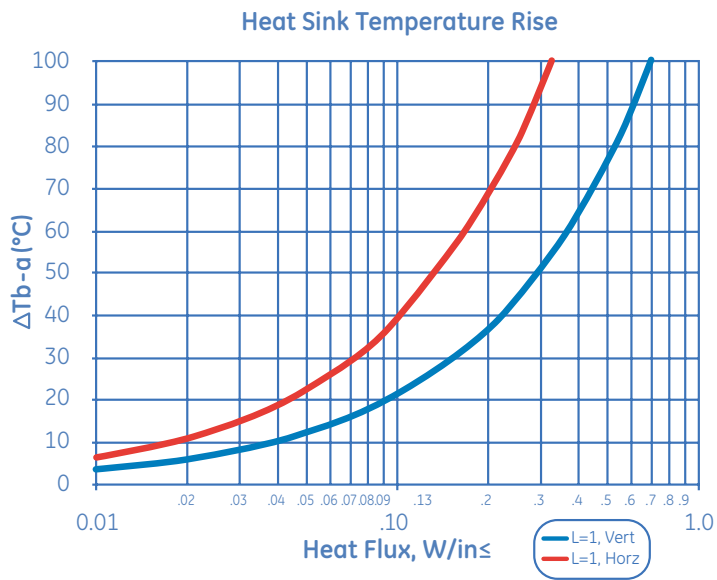

Fig T.8 Heat Sink Natural Convection Curves
Airflow is another factor affecting thermal resistance. The more airflow a heat sink is exposed to, the lower the thermal resistance. The following chart, Figure T.8, illustrates this effect with two (2) natural convection curves. The blue line represents a design with adequate airflow, while the red line illustrates the thermal resistance of heat sinks under restricted airflow. Note that these values are estimates.